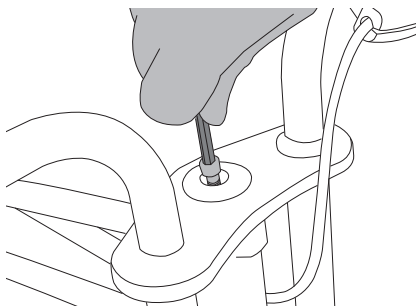

Figure 6
- Identify the hexagonal screw and screw it into the hole in the center of the handlebars with the 5 mm Allen wrench. See Figure 6.